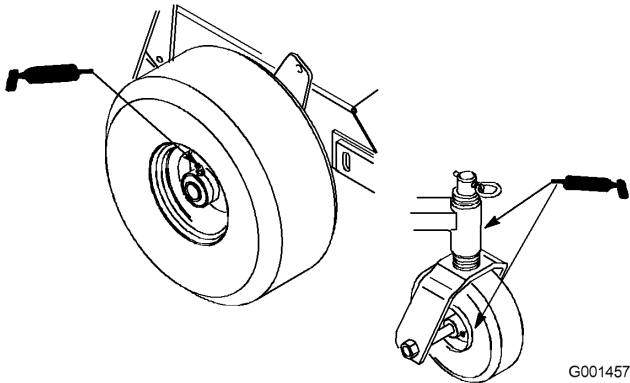

Figure 15
1. Lubricate the front wheel bearings and front spindles (Figure 15).